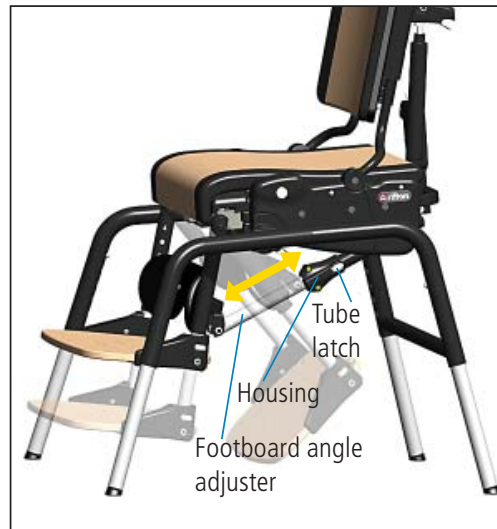

Figure 12a
To detach seat and backrest unit from base, first disconnect footboard angle adjuster, if footboard is present (see Figure 12a). Also lock casters, if casters are present, and remove arm supports from chair.
**Note:** To disconnect footboard angle adjuster, reach beneath seat, depress white tube latch and pull footboard up and away from seat until tubing drops out of housing (see Figure 12a).
Reconnect footboard adjustment tubing to its housing by holding housing and tubing in straight line to one another, depressing tube latch, inserting tubing into housing and making sure it clicks into place at desired setting (see Figure 12a).